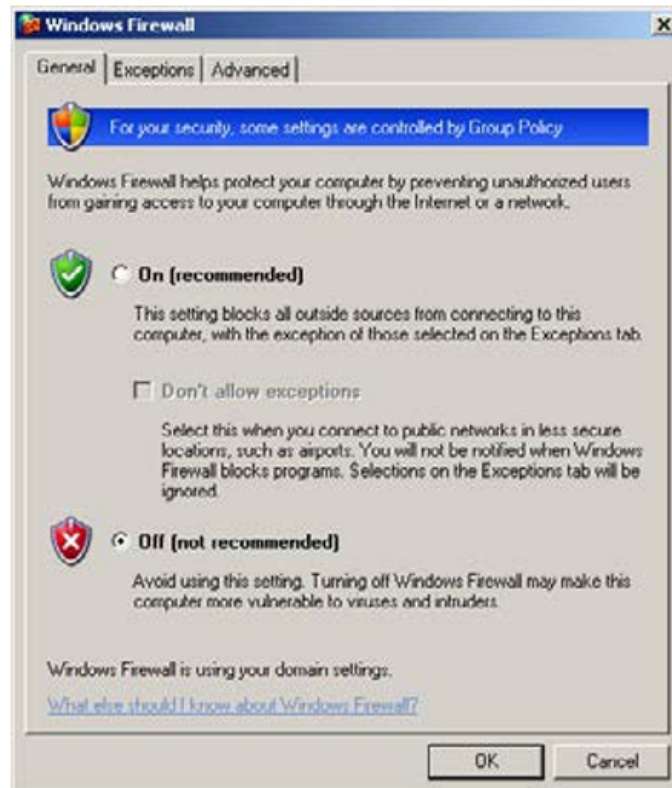

Figure 8-20. Windows Firewall
3. Double click on Windows Firewall and click to select **Off (not recommended)**, as shown in Figure 8-20.
7. Expand the tree on the left to reveal the Vertex M server as highlighted in purple the Matrikon OPC Explorer window in Figure 8-20.